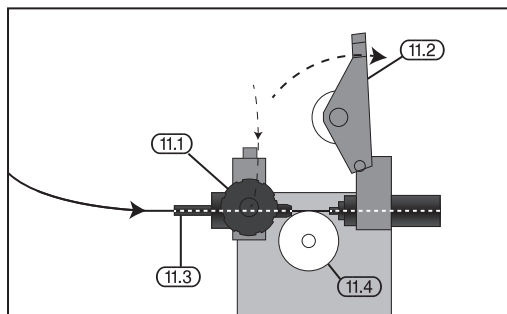

FIG. 1
7.4 INSTALLING THE FILLER WIRE – FIGS. 1 - 4